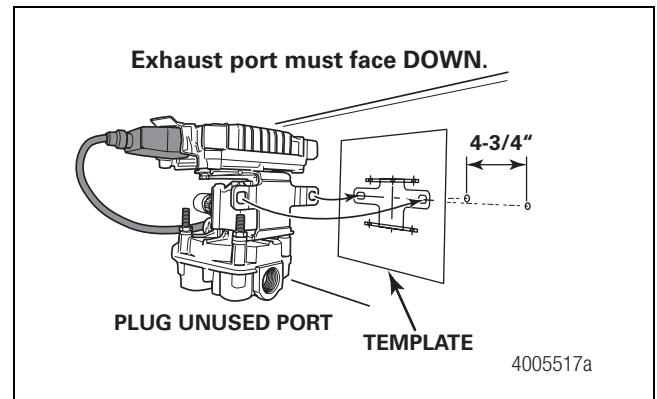

Figure 3
2. Mark the location of two mounting holes on the vehicle cross member. Mounting holes must be 4-3/4 inches apart. Figure 3.